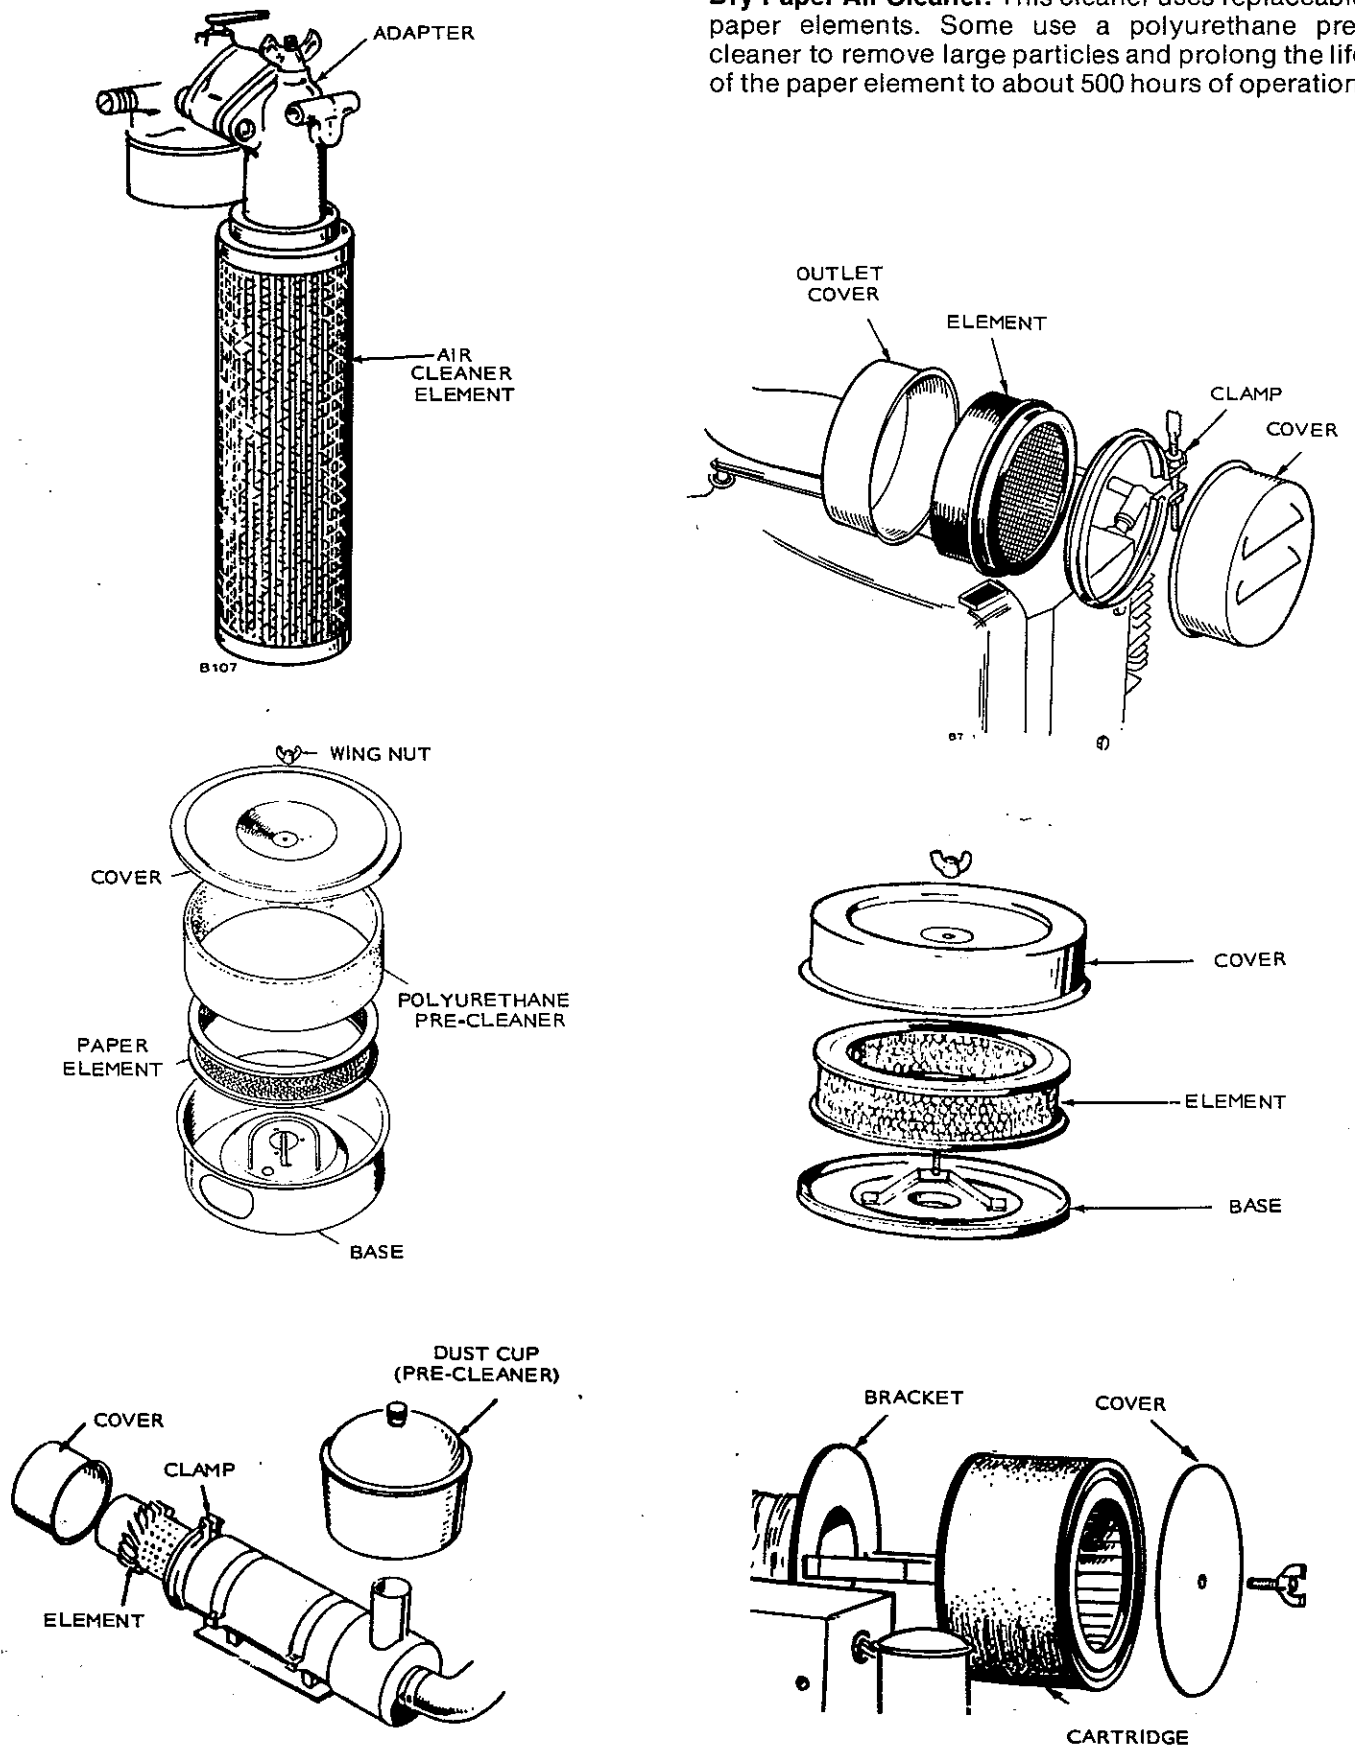

FIGURE 7-40. DRY PAPER AIR CLEANER
- Dry Paper Element Air Cleaner, Figure 7-40.